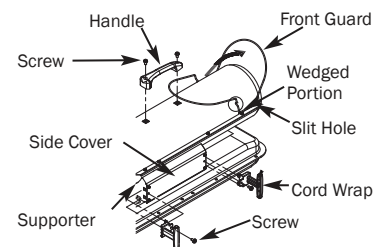

Figure 4 - Handle and Cord Wrap Installation CP045CK and CP075CK
2. Align the holes in upper housing with two mounting holes on the handle as shown in Figure 4.
4. Insert cord wrap into the rectangle holes on the supporter and align the hole on the cord wrap with the mounting hole on the side covers shown in Figure 4.